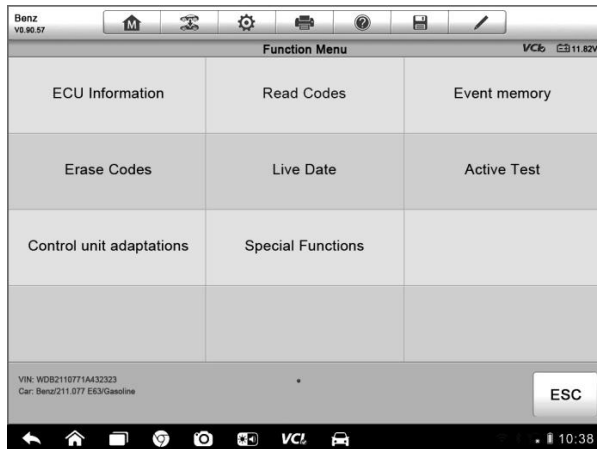

Figure 4-9 *Sample Function Menu Screen*
- Tab the  button to the right of the system item, on which you want to perform further diagnosis and other test activities. A Function Menu screen (*Figure 4-9*) shall then display.